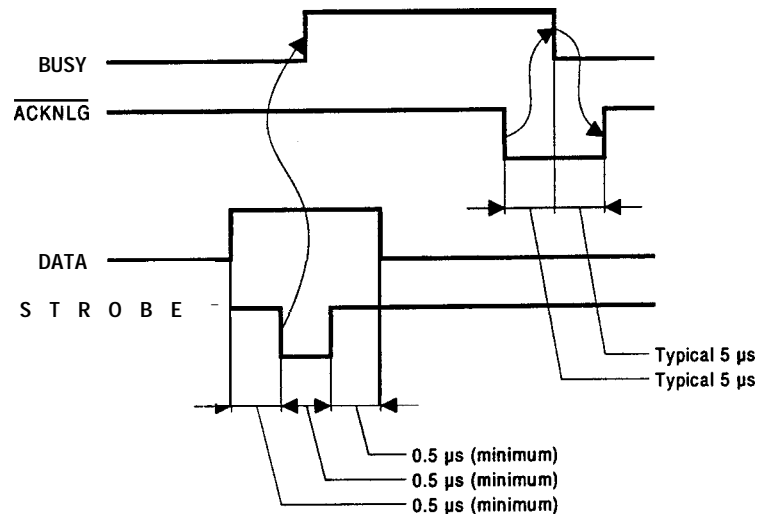

Figure 1-6. Data Transmission Timing
Data transmission timing:	See Figure 1-6.
- . During data reception (See Figure 1-6.)